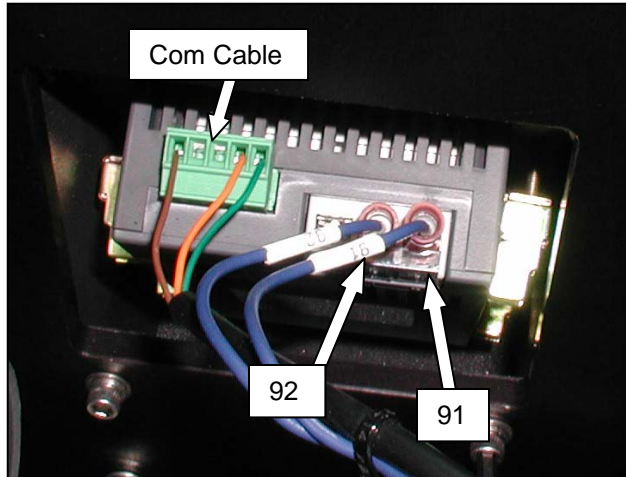

Figure 3-86. Display Connections
- Unplug communications cable from display and unscrew the power connections (Figure 3-86).